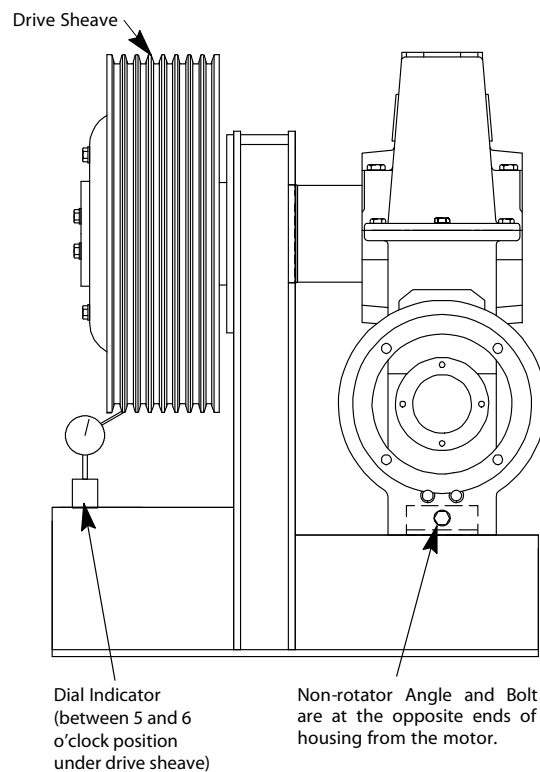

Figure 42 - Dial Indicator to the Bedplate
2. Attach a dial indicator to the bedplate, under the drive sheave, between the 5 o'clock and the 6 o'clock position. Set the indicator to measure the side of the cleaned rope groove. See Figure 42.